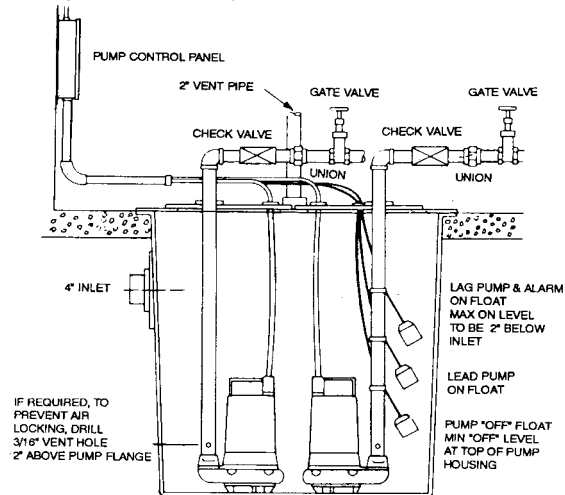

Figure 3
5.4 **Pilot Floats With Control Panel.** The pump may be operated off a control panel in either a simplex or duplex configuration. When a control panel is used, pilot floats signal the control panel when to turn pumps on and off. A typical duplex station is shown in Figure 3. The pumping range is controlled by the vertical distance between the "on" or "lead" float, and the "off" float. In a duplex station, the "lag" float brings on the second pump in the event the level continues to rise after the lead pump has come on. The lag float is sometimes tied into the high level alarm system to sound an alarm.